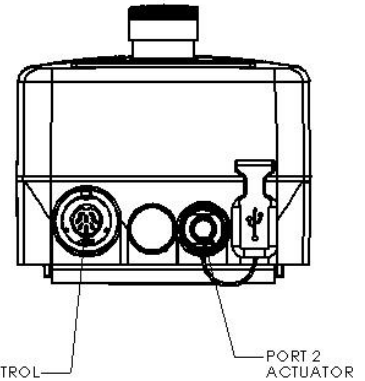

Figure 4B. Control Box Plug Installation
9. Remove the hand control from accessory carton and unwrap. Insert hand control plug into large socket on the LiftOperator control box shown in **Figure 4B.** Next, install that the actuator plug into the socket shown in **Figure 4B.**